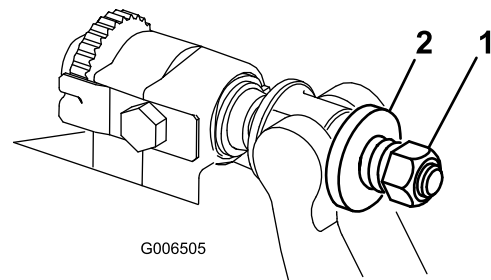

Figure 33
6. Tighten the spring-tension nut until the spring is collapsed, then back it off 1/2 turn (Figure 33).